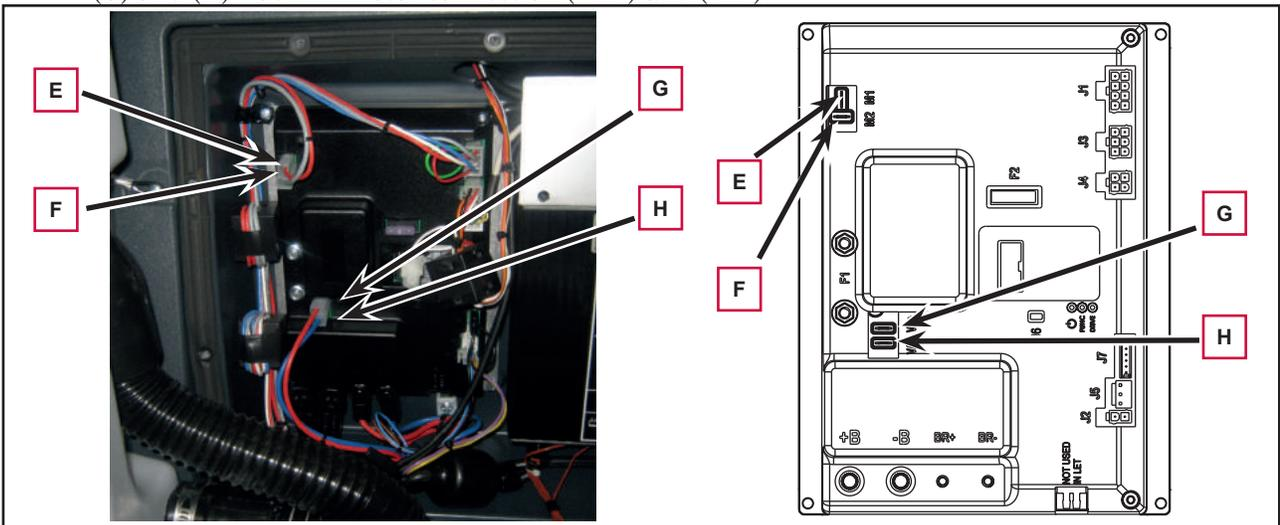

Figure 12
7. Disconnect the following connections sequentially (Figure 12):
- (E) and (F) Drive system motor connection (M1) and (M2).
- (G) and (H) Vacuum motor connection (VA+) and (VA-).